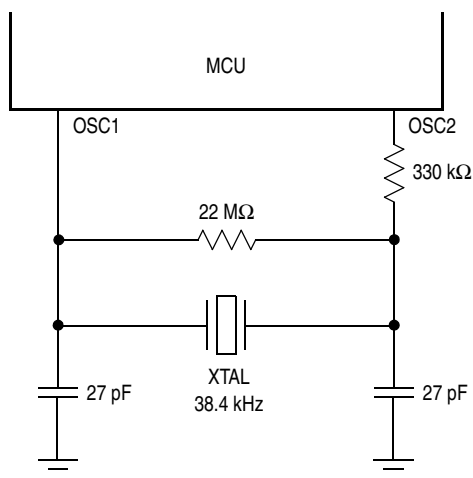

Figure 1-3. Crystal Connections
The OSC1 and OSC2 pins are the crystal connections for the on-chip oscillator. Figure 1-3 shows a typical crystal oscillator circuit for a parallel resonant crystal. Follow the crystal supplier's recommendations, as the crystal parameters determine the external component values required to provide reliable startup and maximum stability. The load capacitance values used in the oscillator circuit design should include all stray layout capacitances. To minimize output distortion and radio frequency (RF) emissions, mount the crystal and capacitors as close as possible to the pins. Pay special attention to minimizing the length of the oscillator load capacitors' ground return path.